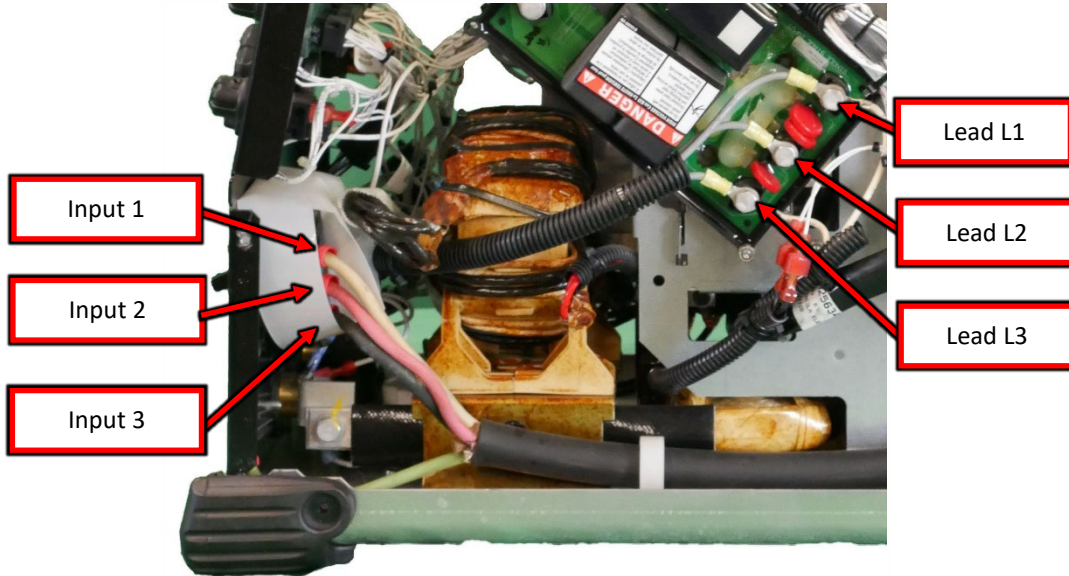

Figure F.2
A.2. Label and disconnect L1, L2 and L3 connections, refer to Figure F.2.
A.3. Perform the static measurements in Test Table 1, refer to Figure F.2 for test point locations.